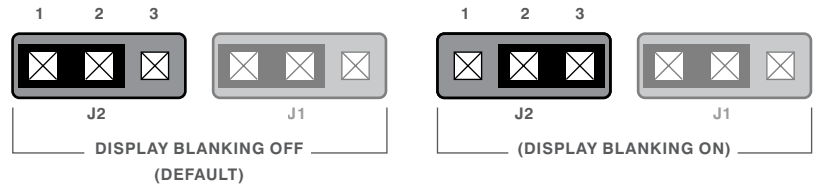

**FIGURE 2:** Location of jumpers on back of the rear panel
**STEP 3:** Locate jumper position J2 on the rear panel board of the unit. Using needle-nose pliers, move the jumper from between pins 1 and 2 to pins 2 and 3, **DISPLAY BLANKING ON.** (See FIGURES 2 and 3)